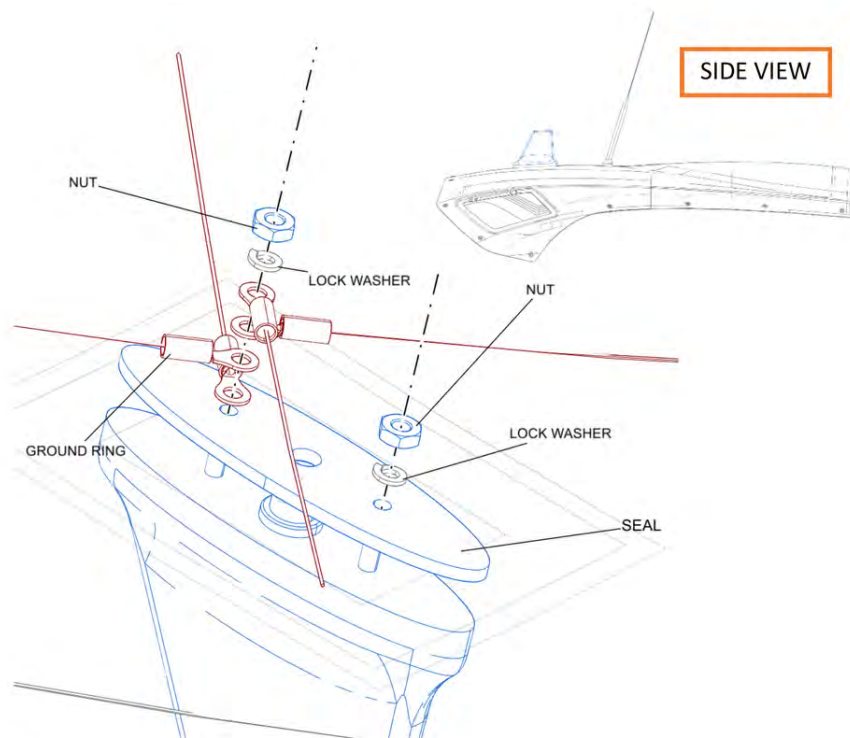

FIGURE 14-34
10. Position antenna on cowl with studs inserted in the noted holes. Ensure antenna is oriented as shown in Figure 14-34. Secure the noted stud using lock washer and nut (both included with antenna).